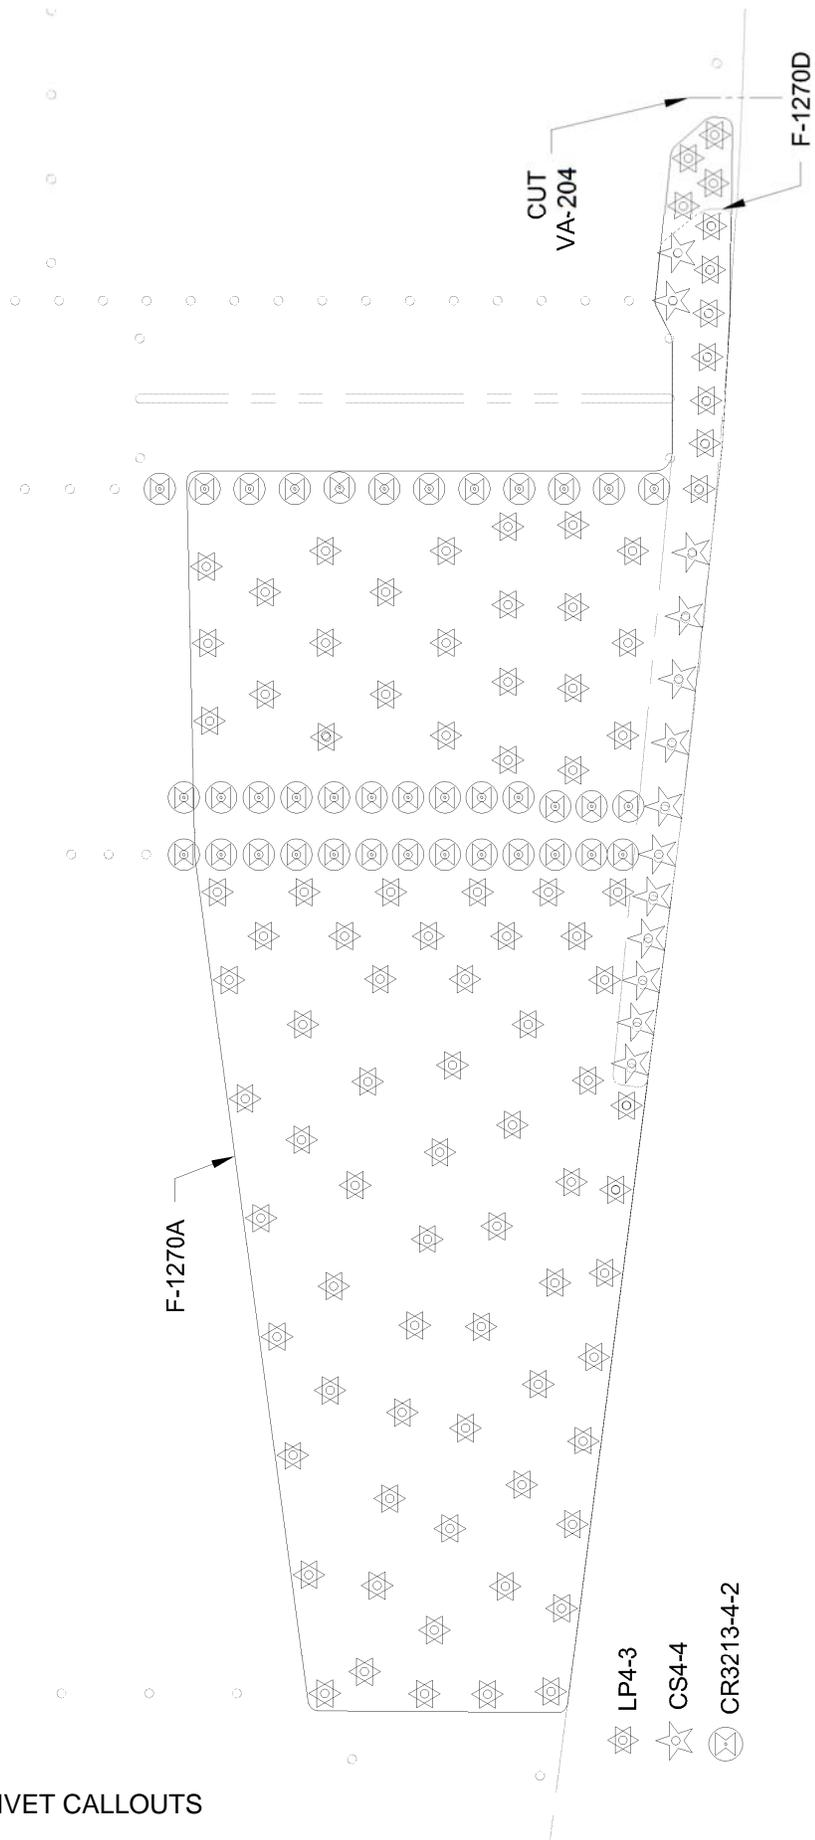

FIGURE 6: RIVET CALLOUTS
Step 14: Cut the wing root seal with a razor blade at the location shown in Fig 6. Remove the portion of the wing root seal strip aft of the cut point by using a sharpened wood Popsicle type stick to lift the seal away as you pull it with your opposite hand. See Figures 3 and 4.
Remove all rivets that have rivet callouts depicted in Figure 6
Step 22: Machine countersink all of the rivet locations in the F-1270A and F-1270D Side Skin Doublers where CS4-4 rivets will be installed. Use a 120 Degree cutter with a #30 pilot and cut just deep enough for a flush fit of the rivet. See Figure 6.